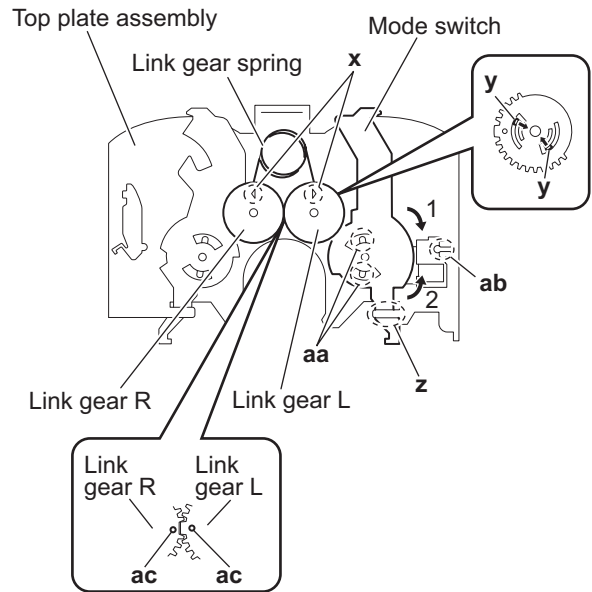

Fig.16
3.1.11 Removing the mode switch (See Fig.16)